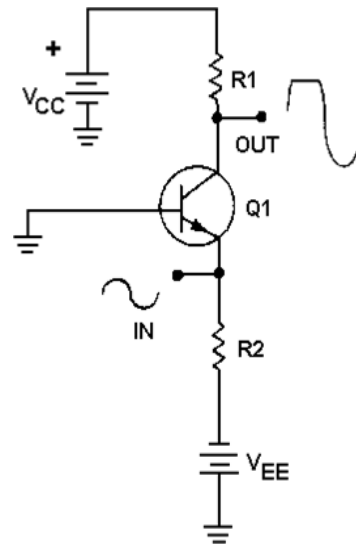

Figure 3.34 Class AB amplifier
- Notice that the output signal in Figure 3.34 is distorted. Any further increase in input signal will not cause an increase in output signal voltage.